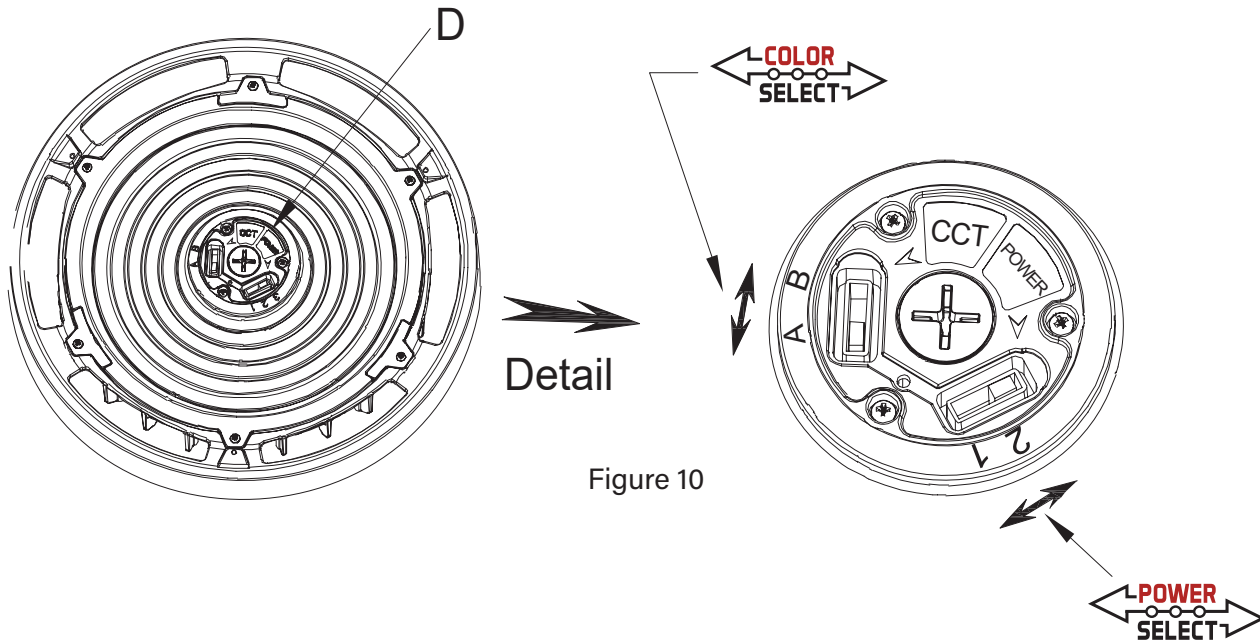

Figure 10
This Fixture features Power Select and Color Select Technology. This allows for (3) field selectable wattages and (2) field selectable CCTs. Remove the water-proof gasket and adjust the dip switch to choose desired settings as per markings on the fixture. Factory settings default to highest power and CCT. (Figure 10).